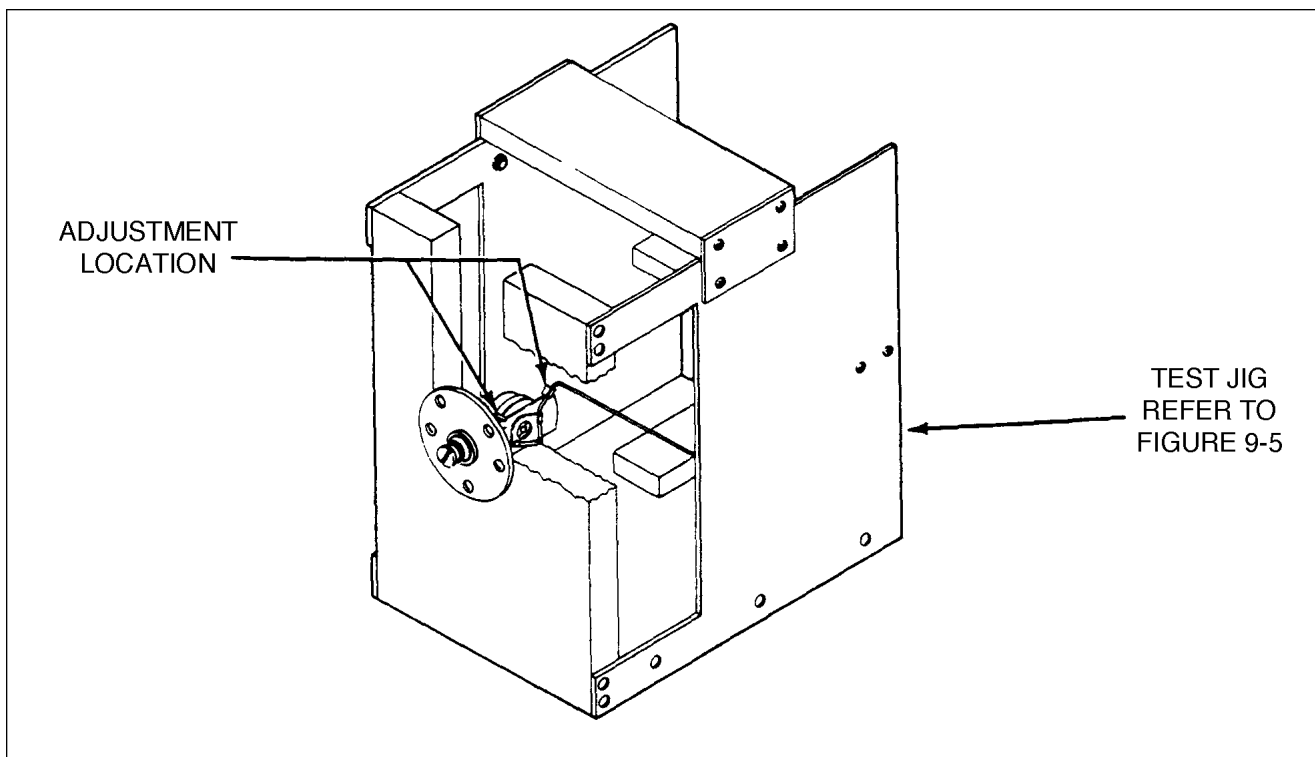
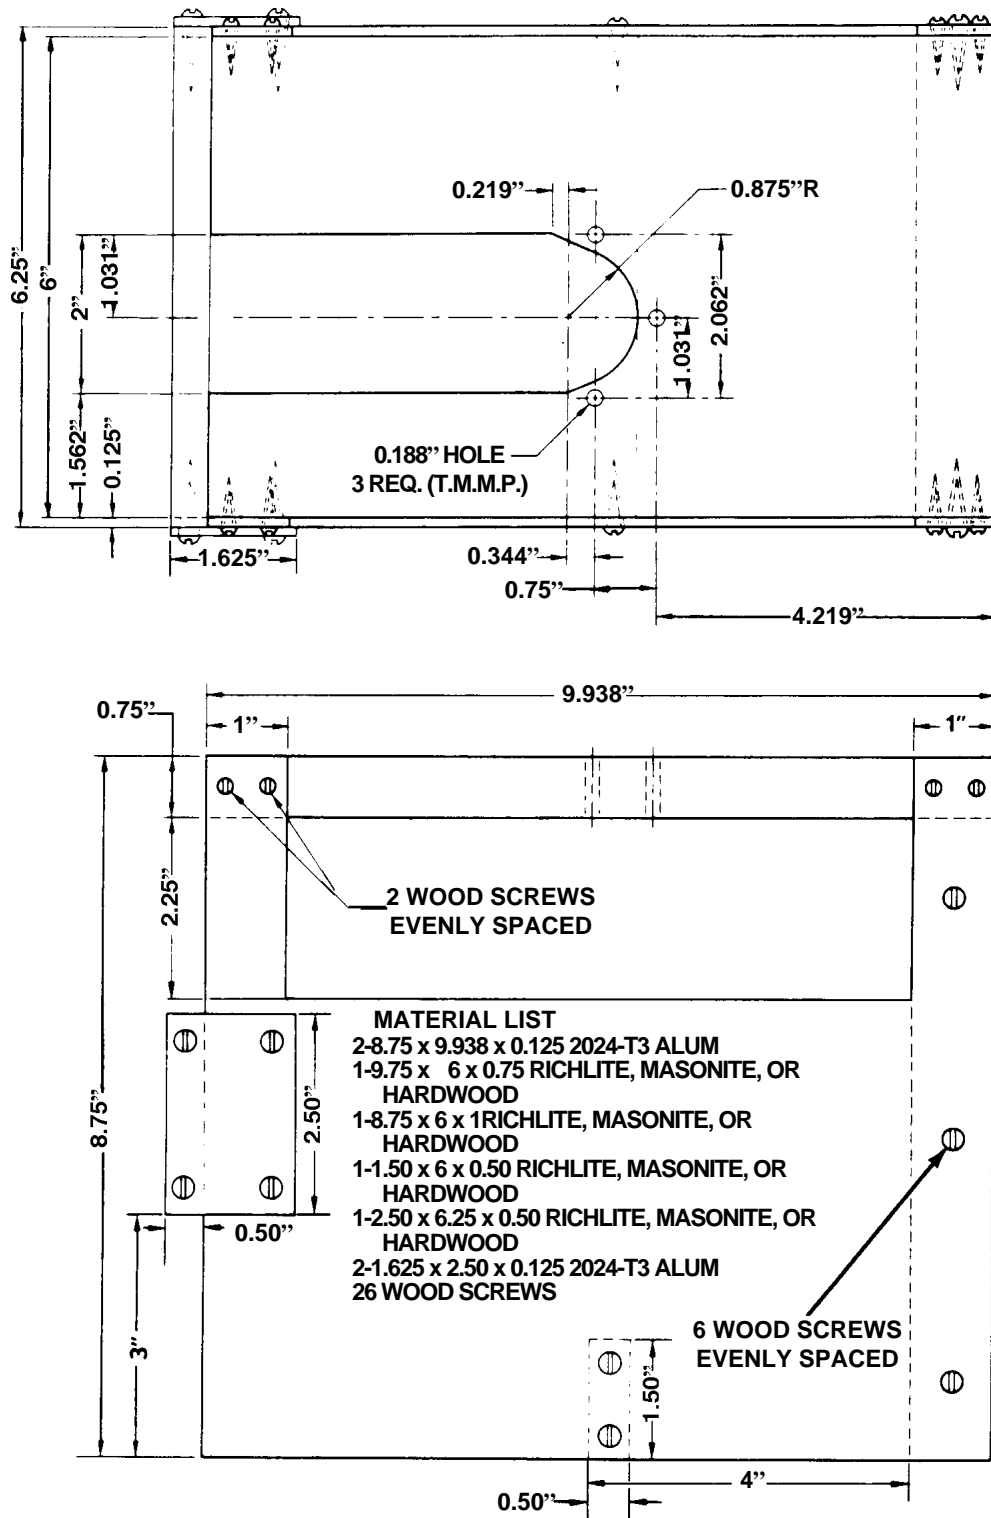

Figure 9-6. Fuel Quantity Transmitter Checking Jig
Figure 9-7. Fabricated Fuel Quantity Transmitter Checking Jig.
(A) Fasten unit to a fabricated checking jig (Figure 9-6.) with washer and nuts. (Fabricate jig per Figure 9-7 dimensions.)
(B) Check with the float arm down against mechanical stop on transmitter, the float is just touching base of jig. (Float may be to 0.18 inch above base.) If float does not touch the base or float arm is not against bottom stop, adjust float assembly arm stop by bending it per Figure 9-6. The entire surface of float must be horizontal with the jig base.
(A) Fasten unit to a fabricated checking jig with washer and nuts as shown in Figure 9-6. (Fabricate jig per Figure 9-7 dimensions.)
(B) Check resistance with the float just touching the top, back of a 0.27 inch spacer. Resistance of the sending unit is 3 ohms, ± 0.5 ohm. If the resistance of the sending unit is not in this range, adjust arm of the float assembly by gently bending it as shown in Figure 9-6. The entire float must be kept horizontal to the base of the fixture.